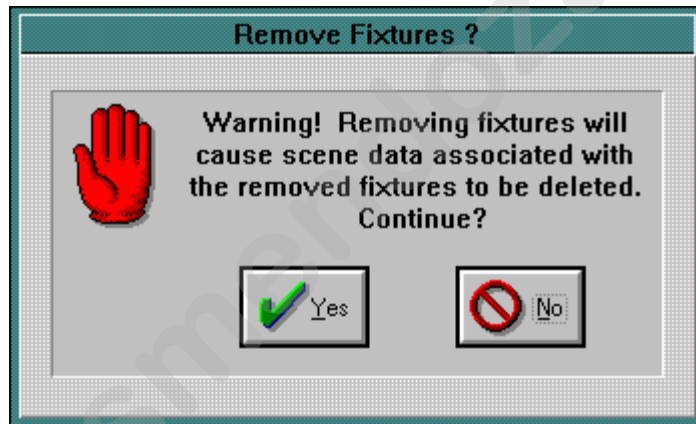

Figure 4.11. Remove Fixture(s)? Dialogue Box
3. Click the **Remove** button. You will be prompted to continue or cancel this operation through the **Remove Fixture(s)?** dialogue box. Refer to Figure 4.11.